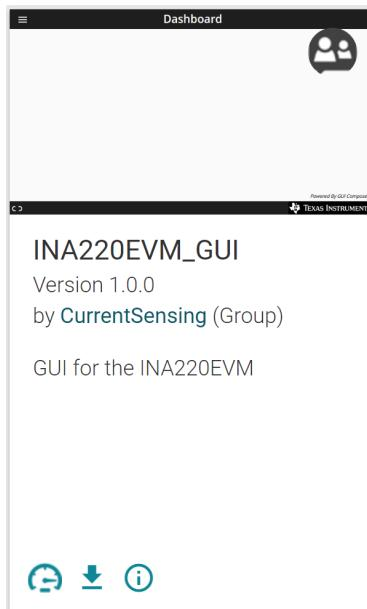

Figure 3-2. GUI Composer Application
3. Open the *GUI Composer* application to launch the GUI from the web browser (see Figure 3-2).
- Optionally, to download the GUI for offline use, click the  icon in the GUI Composer application and follow the prompts (see Figure 3-2).